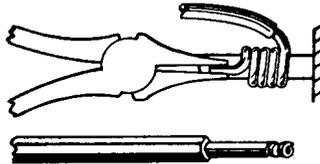

FIGURE 28. Removing Wrapped Connection
- a. The spiral may be unwound with an unwrapping tool or pliers (see Figure 28), or by hand if there is sufficient slack.